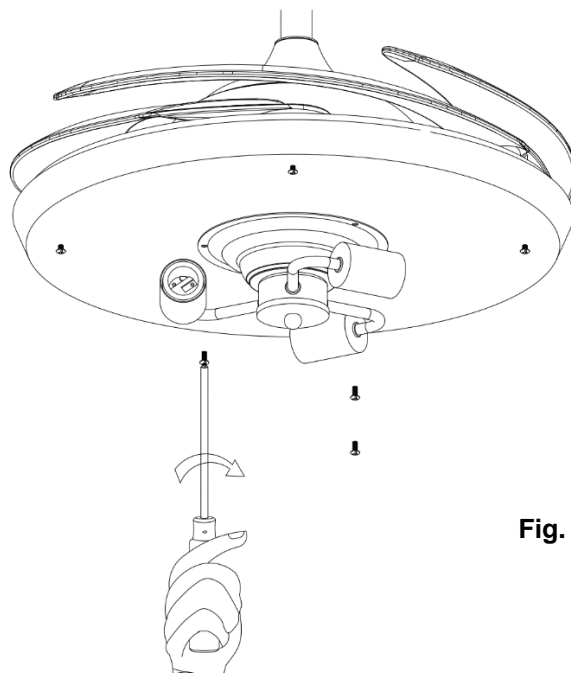

Fig. 11
3. Secure the lamp-holder part to the light kit bracket plate by tightening the 3 screws. Do not over-tighten. (Fig. 11)